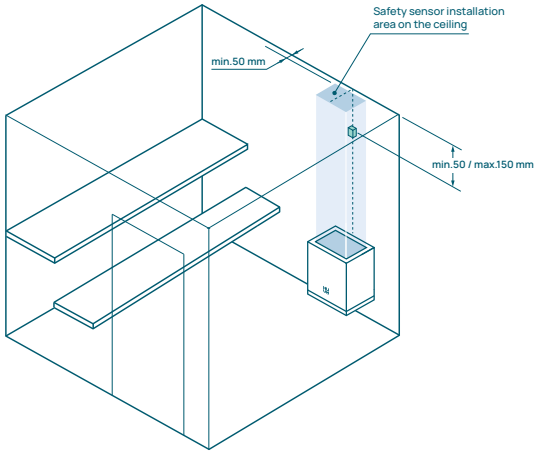

Figure 1. Temperature/Safety sensor placement
* - The minimum safety distances to the ceiling is valid only if the temperature/safety sensor is placed in the designated area on the wall or ceiling as stated in the Figure 1.